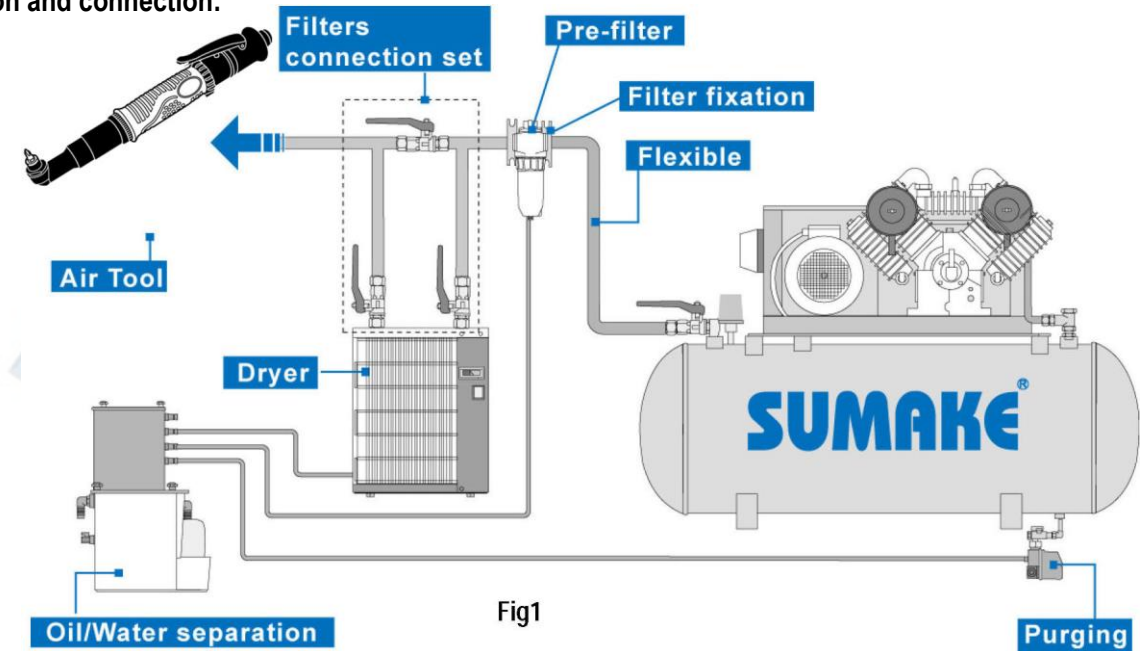

Fig1
5. Please refer Fig.1 illustration shows the correct mode of connection to the air supply system which will increase the efficiency and useful life of the tool.
1. Dry the filter (fig1) and the air inlet of the tool.